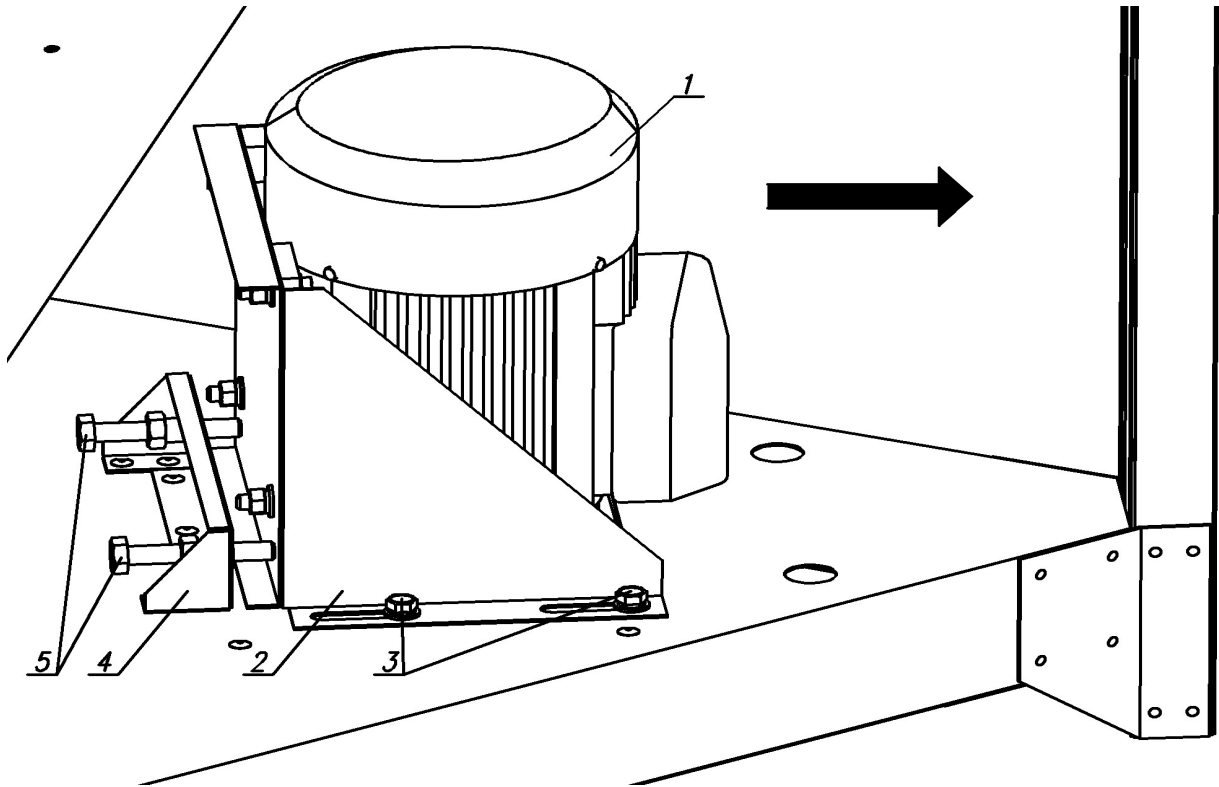

Figure 9. A method for adjusting the belt drive: 1- motor, 2- motor base, 3 – motor base screws, 4 – tensioner, 5 – tensioner M10 screws.
a) Adjustment of V-belts tensioning For the MS-650 and MS-1000 mixers. Loosen four screws on the motor base, tighten belts by moving the motor away from the tensioner with two M10 control screws (Fig. 9). The belt tensioning needs to be determined experimentally, by switching the mixer on several times. When the belts do not slide during normal running of the loaded mixer, then the tension is correct; a temporary sliding of belts is acceptable during starting of the mixer.